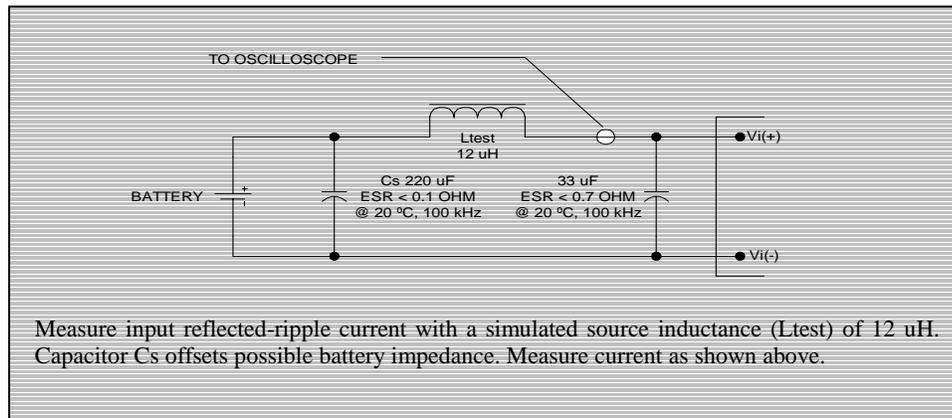

Figure 1. Input Reflected Ripple Current Measurement Setup.
2. Refer to Figure 1 for the input reflected ripple test setup.